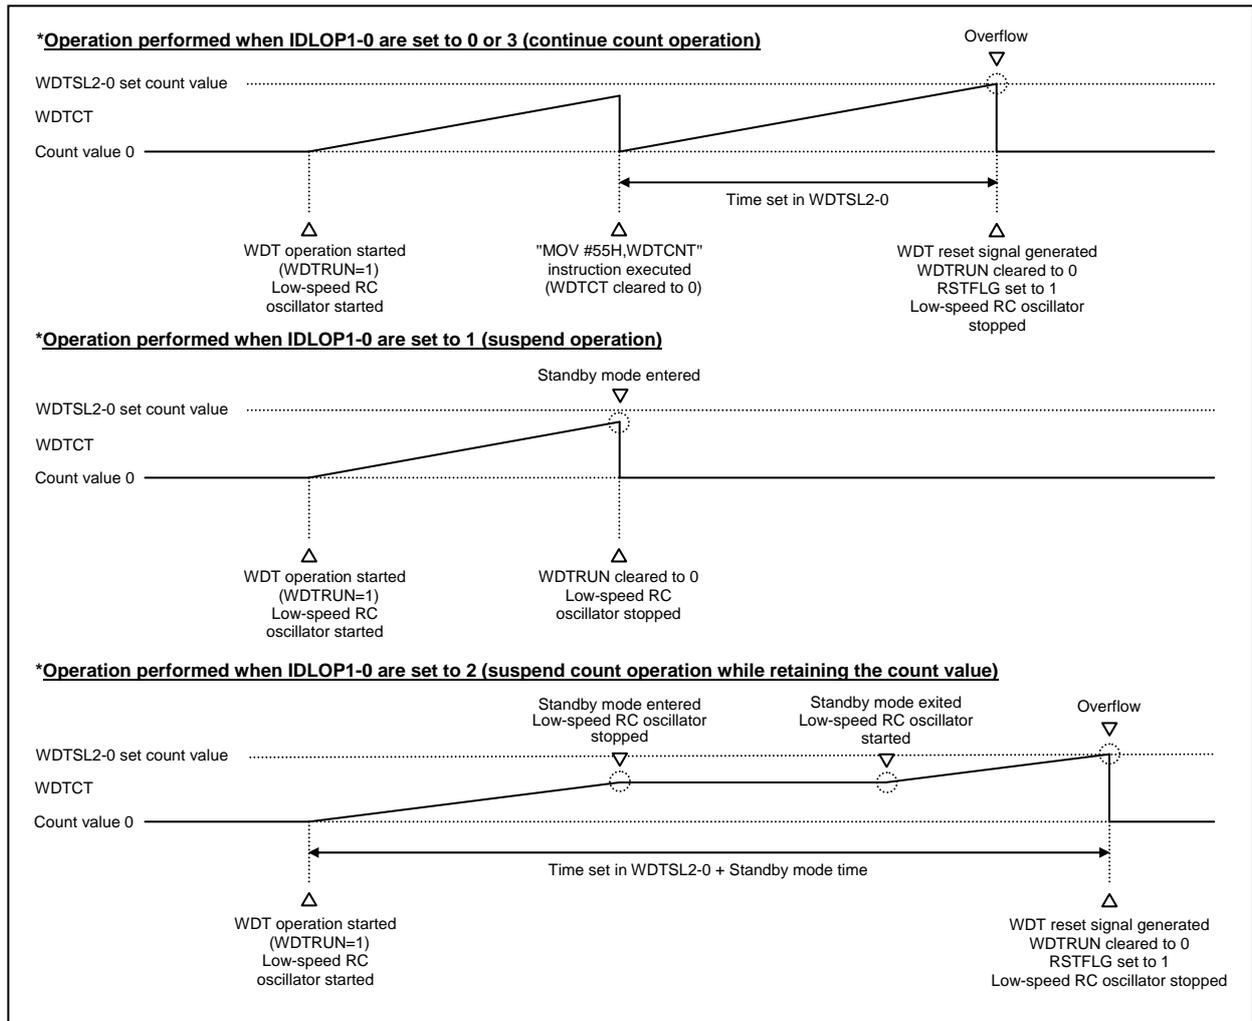

Figure 4.5.2 Sample Watchdog Timer Operation Waveforms
* See Figure 4.5.2 for details of WDT operating modes.